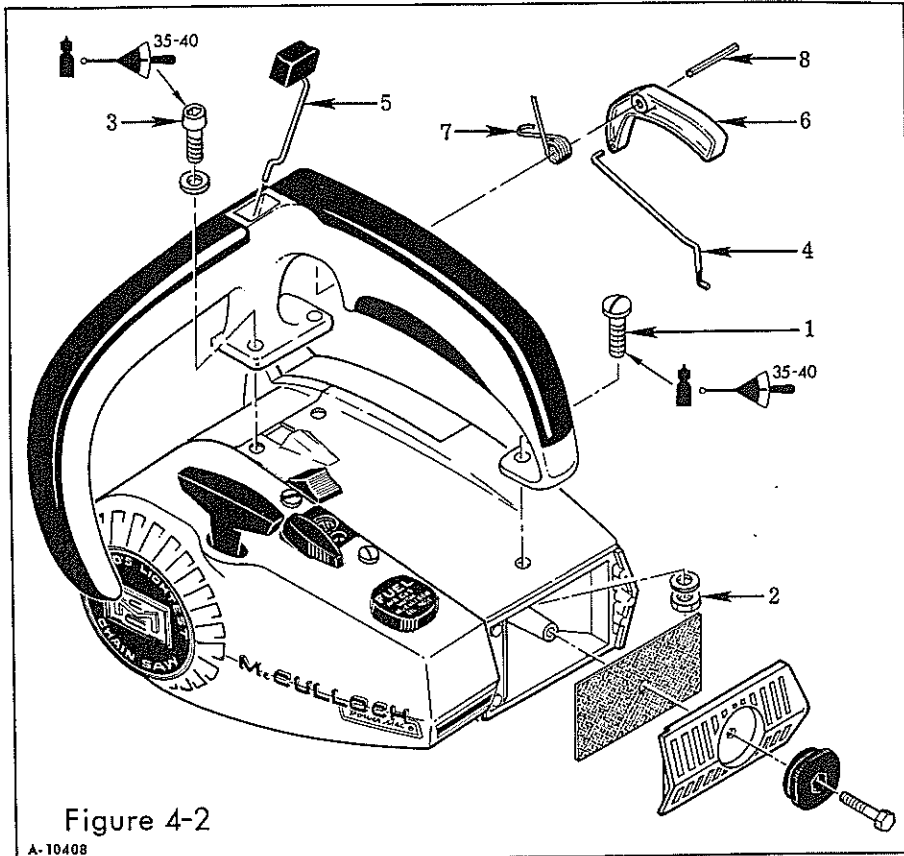

Figure 4-2
1. Remove the air filter cover and air filter. Remove the rear handle attaching screw (1, Figure 4-2). Be careful of the attaching nut (2) as this is a special nut and should not be lost.
2. Remove the two forward attaching screws (3). On saws equipped with a handle strap, disconnect the strap from the lower end of the handle.
3. Disconnect the throttle rod (4) from the handle trigger and lift off the handle.
1. The manual oiler push rod (5, Figure 4-2) will only require servicing if it is damaged or if the cavity in the handle in which it operates is plugged and requires cleaning. The push rod can be pulled out of the top of the handle. The new rod is pushed down through the handle.
2. The throttle trigger (6) and/or spring (7) will only require service if one or the other is damaged. Break the plastic trigger into pieces with pliers or cutters and push the rollpin (8) out the side of the handle until the spring is freed. Hold the new trigger and spring in position and push the rollpin back into place. Make sure the throttle trigger operates freely and without binding.
2. Coat each of the handle attaching screws (1 and 3, Figure 4-2) with a drop of Loctite. Install the handle with the screws. Make sure you use the special nut (2) on the rear screw. Tighten all screws to a torque value of 35 to 40 inch pounds.